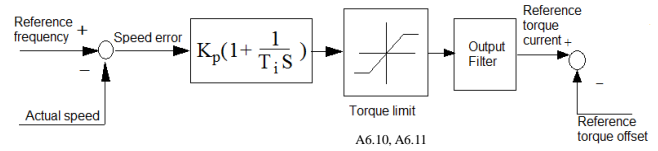

Fig.6-13 Speed regulator
1. The structure of speed regulator (ASR) is shown in Fig.6-13. In the figure, K_p is proportional gain P. T_i is integral time I.